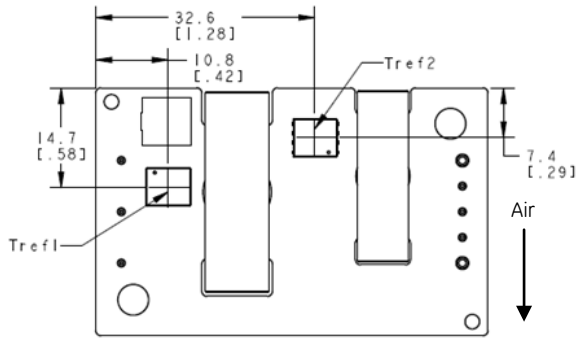

Figure 13. T_{ref} Temperature Measurement Location for open frame version.
To provide protection under certain fault conditions, the unit is equipped with a thermal shutdown circuit. The unit will shutdown if the thermal reference point T_{ref} (Figure 13), exceeds 135°C (typical), but the thermal shutdown is not intended as a guarantee that the unit will survive temperatures beyond its rating. The module will automatically restart upon cool-down to a safe temperature.
The thermal reference points, T_{ref1}, and T_{ref2} used in the specifications for open frame modules are shown in Figure 13. For reliable operation these temperatures should not exceed 124 °C & 124 °C respectively.